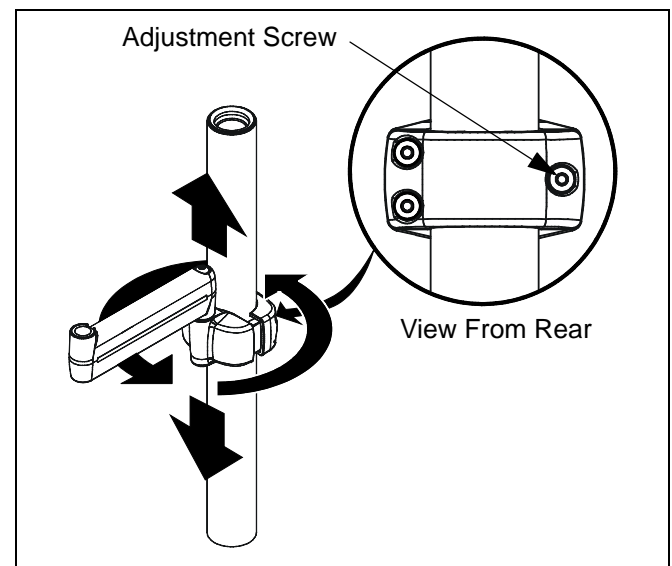

Figure 6: Pole Mount Adjustment
1. Loosen single (right) rear BHCS (30). (see Figure 6)
2. Move FSA-1017 to desired position. (see Figure 6)
3. Tighten BHCS (30).